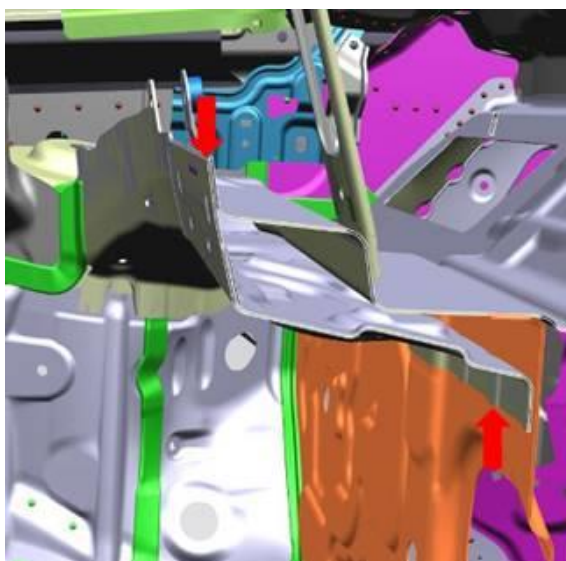

Figure 5. Side view of the water entry and exit areas of the plenum chamber bulkhead.
6. Figure 5 shows a side view of the water entry and exit points of the plenum chamber bulkhead.